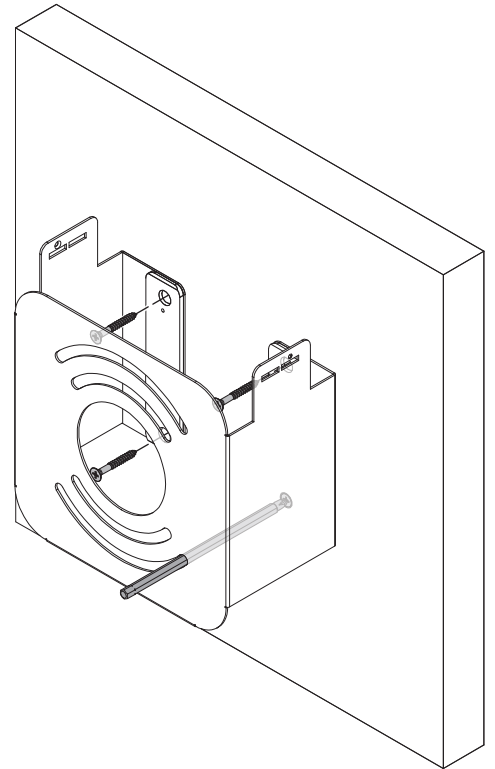

Figure 13
10. Insert the screwdriver bit through the bottom of the bracket and then balance an included 1-1/2 inch wood screw on its tip (Figure 13).
11. Line up the screw holes in the bracket with the pilot holes you drilled into the wall, and then screw in the screw sitting on the tip of the screwdriver bit (Figure 13). Tighten the screw enough to hold the bracket in place but leave it loose enough to move the bracket to align the other screw holes.
12. Install the three remaining 1-1/2 inch wood screws, and then tighten all four screws so the bracket is held firmly; **do not overtighten the screws** (Figure 13).